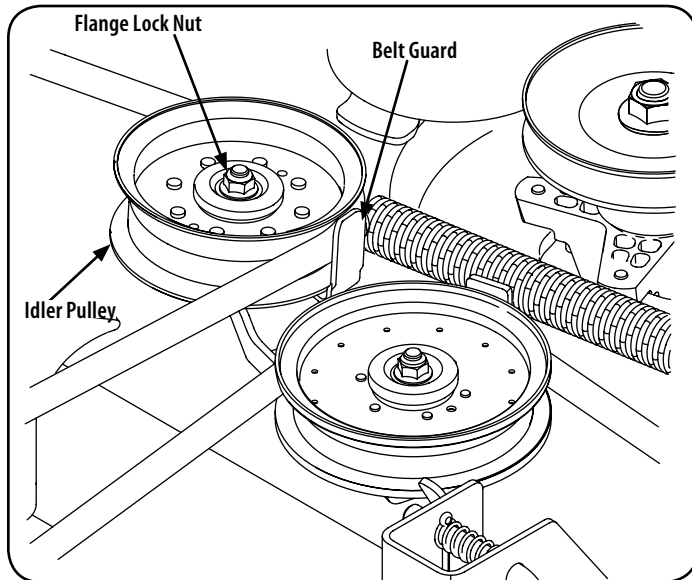

Figure 40
- a. Loosen, but do not remove, the movable idler pulley and belt guard by only loosening the flange lock nut securing the idler pulley to the idler arm. See Figure 40.
- d. Place the belt around the idler pulleys removed in step 3. Once in place, retighten the flange lock nut on the idler pulley to secure the assembly. See Figure 40.